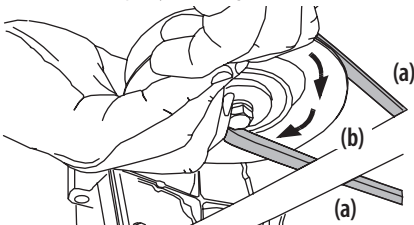

Figure 43
- d. While still holding the PTO belt (a) downward, continue turning the PTO pulley (b) until the PTO belt (a) is rolled off the PTO pulley (b). See Figure 43.
8. Pull the right side of the PTO belt rearward and place the narrow V-side of the PTO belt into the PTO pulley. See Figure 43.
9. While holding the PTO belt and PTO pulley together, rotate the PTO pulley to the left (See Figure 43 on page 28). Continue holding and rotating the PTO pulley and PTO belt until the PTO belt is fully rolled into the PTO pulley.